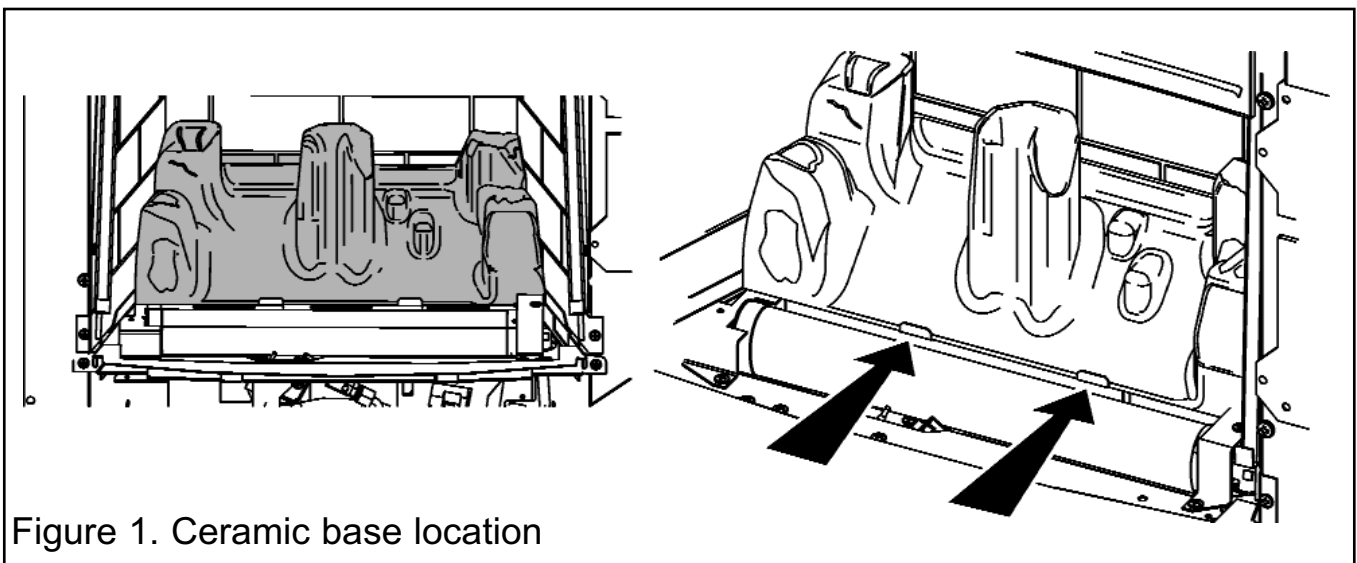

Figure 1. Ceramic base location
1. Place the ceramic base coal in the burner compartment. The bottom rear face of the coal should rest on the angled ledge at the back of the burner compartment. The bottom front recess edges on the coal base should locate against the tags at the front of the ceramic support (See figure 1).